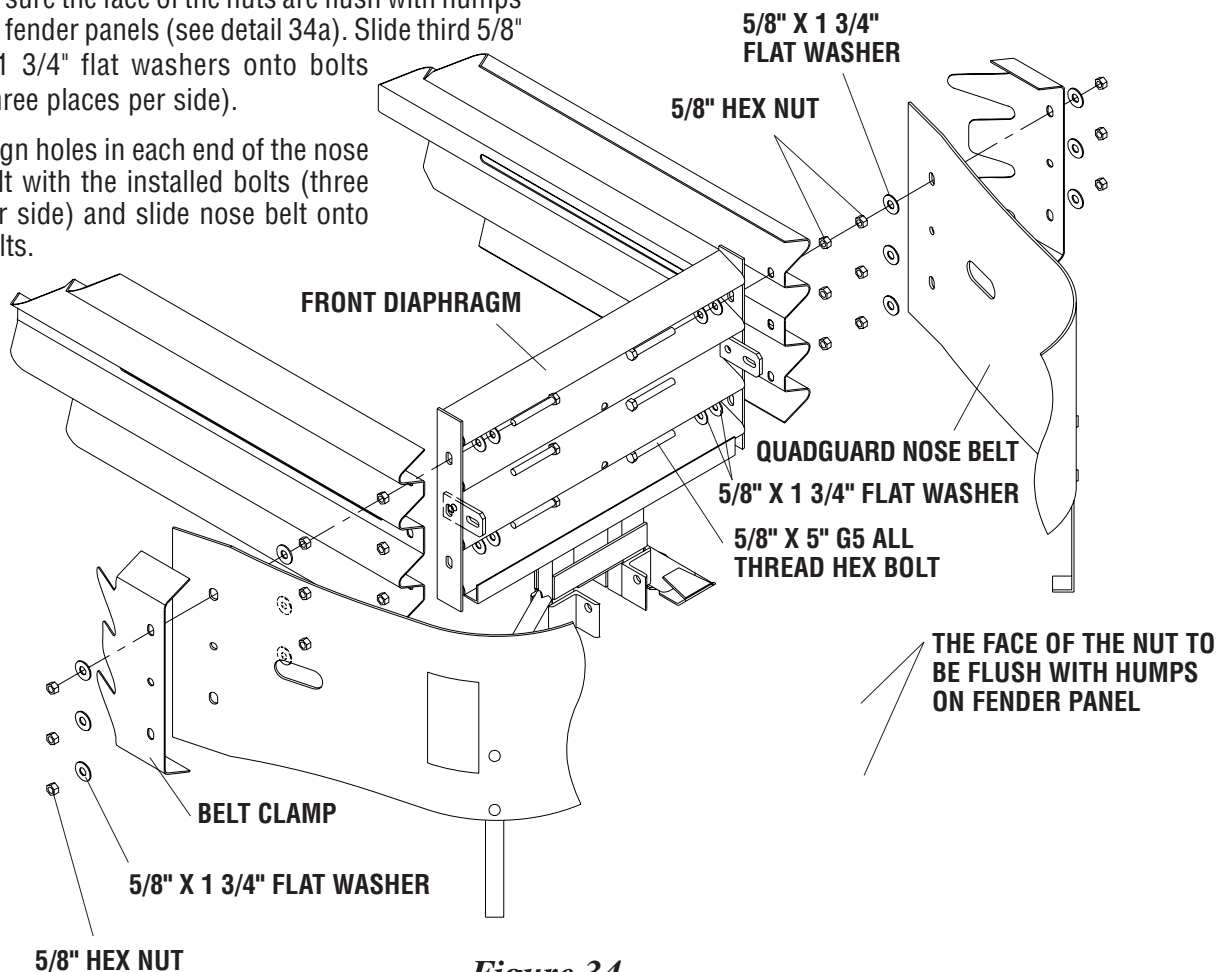

Figure 34
- Using 5/8" x 5" hex bolt, two 5/8" x 1 3/4" flat washers and 5/8" hex nut, attach fender panel to front diaphragm top and bottom as shown in Figure 34 (two places per side).